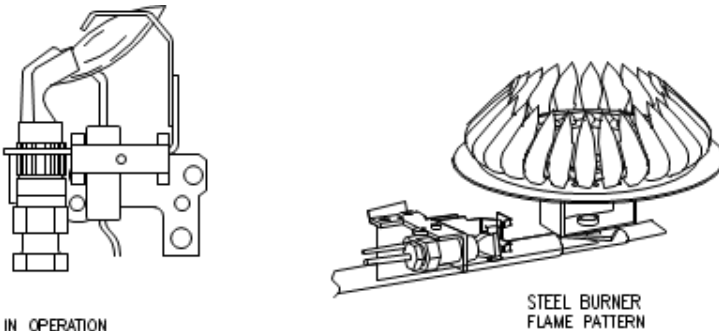

Fig. 11
**Steel Burner:** These models are equipped with self-adjusting air mixture and do not have an adjustable air shutter (see Figure 11). At periodic intervals a visual check of the main burner and pilot flames should be made to determine if they are burning properly. The main burner flame should light smoothly from the pilot.